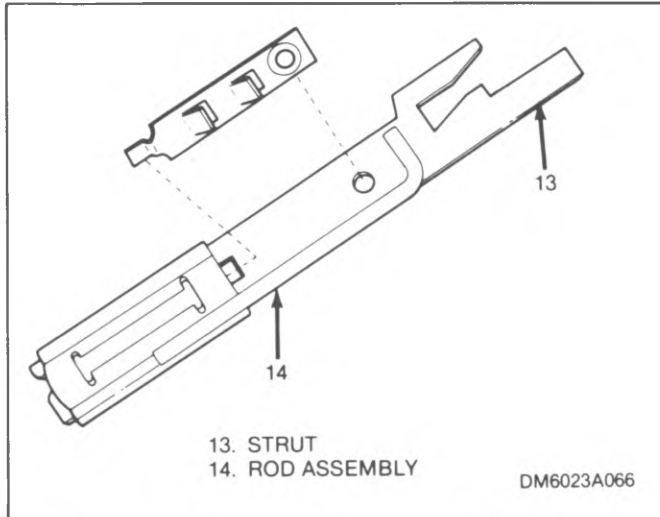

Figure 4-22. Positioning Adjuster Assembly
15. Assemble rod assembly to the strut. Make sure index hole is lined up and seated (see figure 4-22).